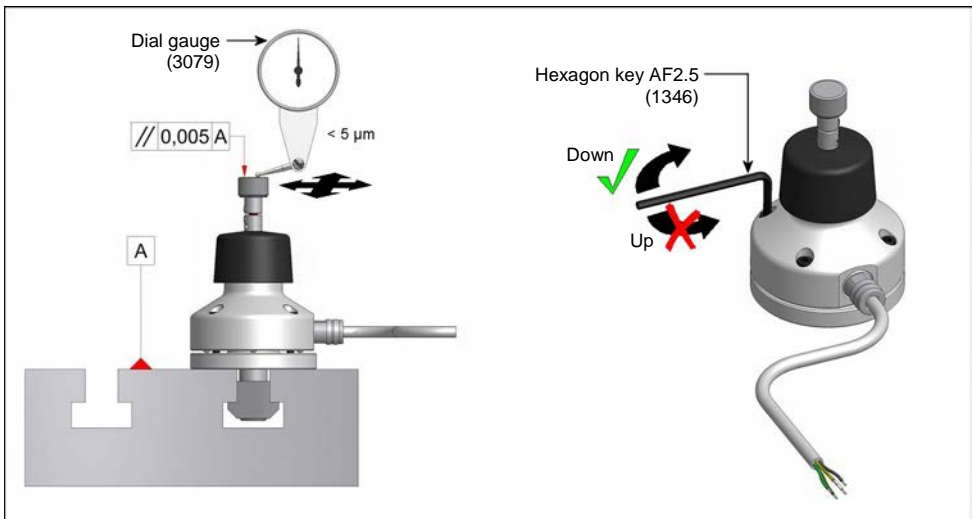

Fig. 6 Aligning the Stylus
3. Insert the tube fitting (2543) with sealing ring in a appropriate bore in the machine wall and secure on the back with the related nut (refer to Fig. 6).